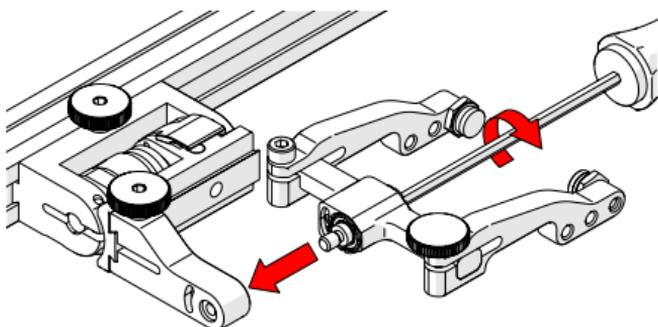

Fig. 110 - Install yoke to swing arm
6. Using the 3 mm hex driver, screw the yoke pivot screw into the opposite side of the probe holder swing arm (Fig. 110). Ensure the yoke is level to avoid issues with the plunger/set screw.